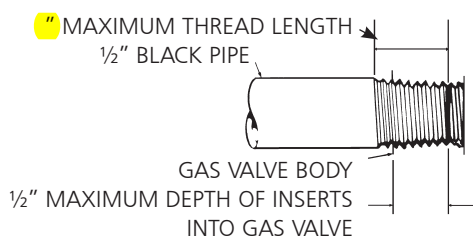

Figure 2. Gas valve connection requirements
Maintain clearances as shown in Figure 2 or on heater nameplate.
- Male threads on pipe to be installed into gas valve shall meet the requirements of Figure 2. Threads longer than those shown in the figure may cause gas valve distortion and malfunction.